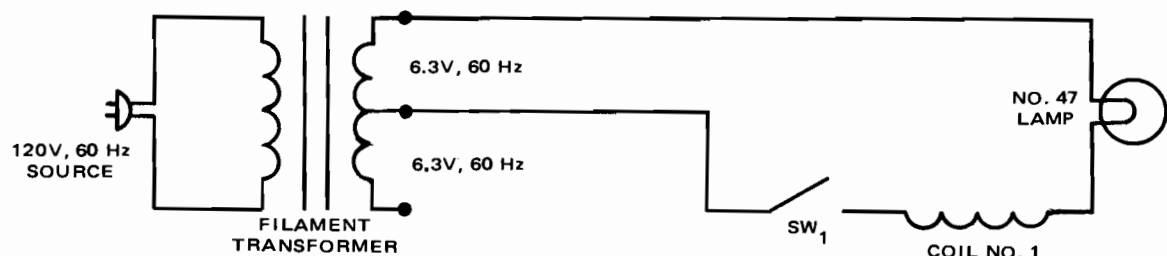

Fig. 9-2-2
3. Turn off circuit switch and insert coil No. 1 into circuit between switch and lamp as indicated in Fig. 9-2-2.